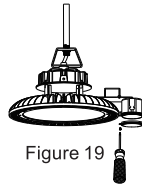

Figure 19
2. Remove the screws on the sensor, and then adjust according to the sensor manual (Figure 19).